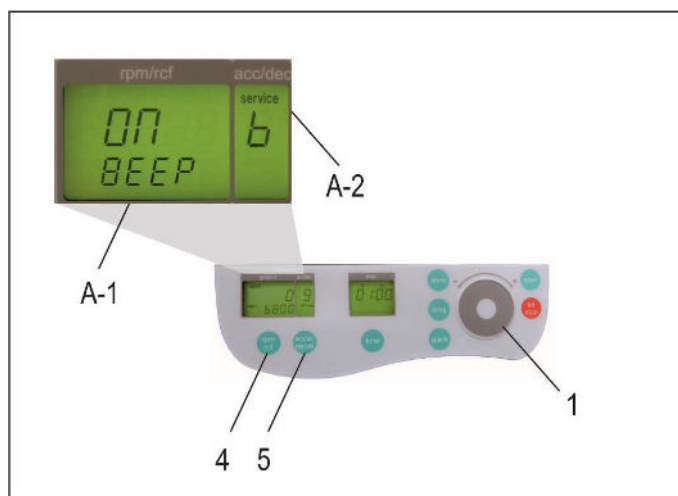

Figure 9
Proceed as illustrated, under point 3.2, to enter this program mode, press the key, "accel/decel" (5). In the display; "accel/decel" (A-2) flashes the word, "service". Select the letter, "b" with the control field (1). As a result, appearing in the display, "rpm/rcf" (A-1), the word "ON/BEEP". By pressing the key, "rpm/rcf" (4), the keyboard sound (On) or (Off) can be turned on, with the adjustable knob (1), (see Figure 9).